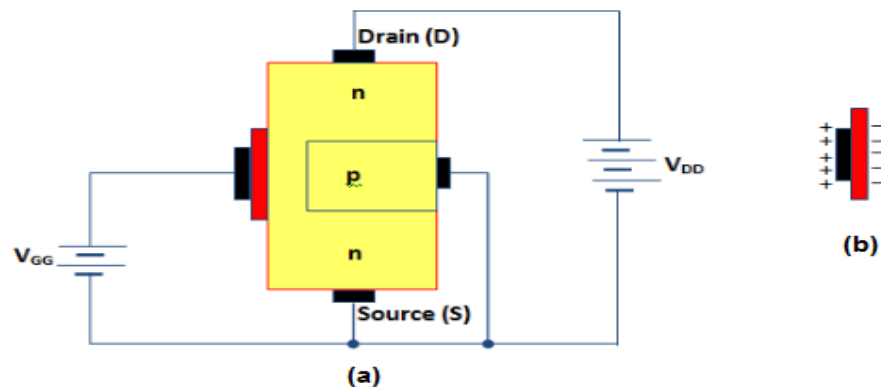

Fig. 4.23 Operation of n-channel E-MOSFET
- Fig. 4.23 (a) shows the circuit of operation of n-channel E-MOSFET.
- Again the gate acts like a capacitor. Since the gate is positive, it induces negative charges in the n-channel as shown in fig. 4.23 (b).
- When $V_{GS} = 0V$, as shown in fig. 4.23 (a), there is no channel connecting source and drain.
- When V_{GS} is positive, i.e. gate is made positive as shown in fig. 4.23 (b), it attracts free electrons into the p region. The free electrons combine with the holes next to the SiO_2 layer.